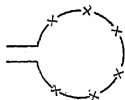

FIG. 38. Series-connected arc lamps.
**Prob. 14-2.** Six arc lamps are joined in series by wires having a total resistance of 10 ohms. (See Fig. 38.) Each lamp has a resistance of 14 ohms. How much voltage is required to send 6.6 amperes through the circuit? Assume that the seven connecting wires have equal